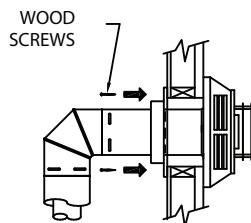

Figure 9
Step 7. Slide the Wall Thimble Cover up to the wall surface and attach to the wall with screws provided (*Fig. 9*). Apply optional decorative brass trim to Wall Thimble Cover, if desired.